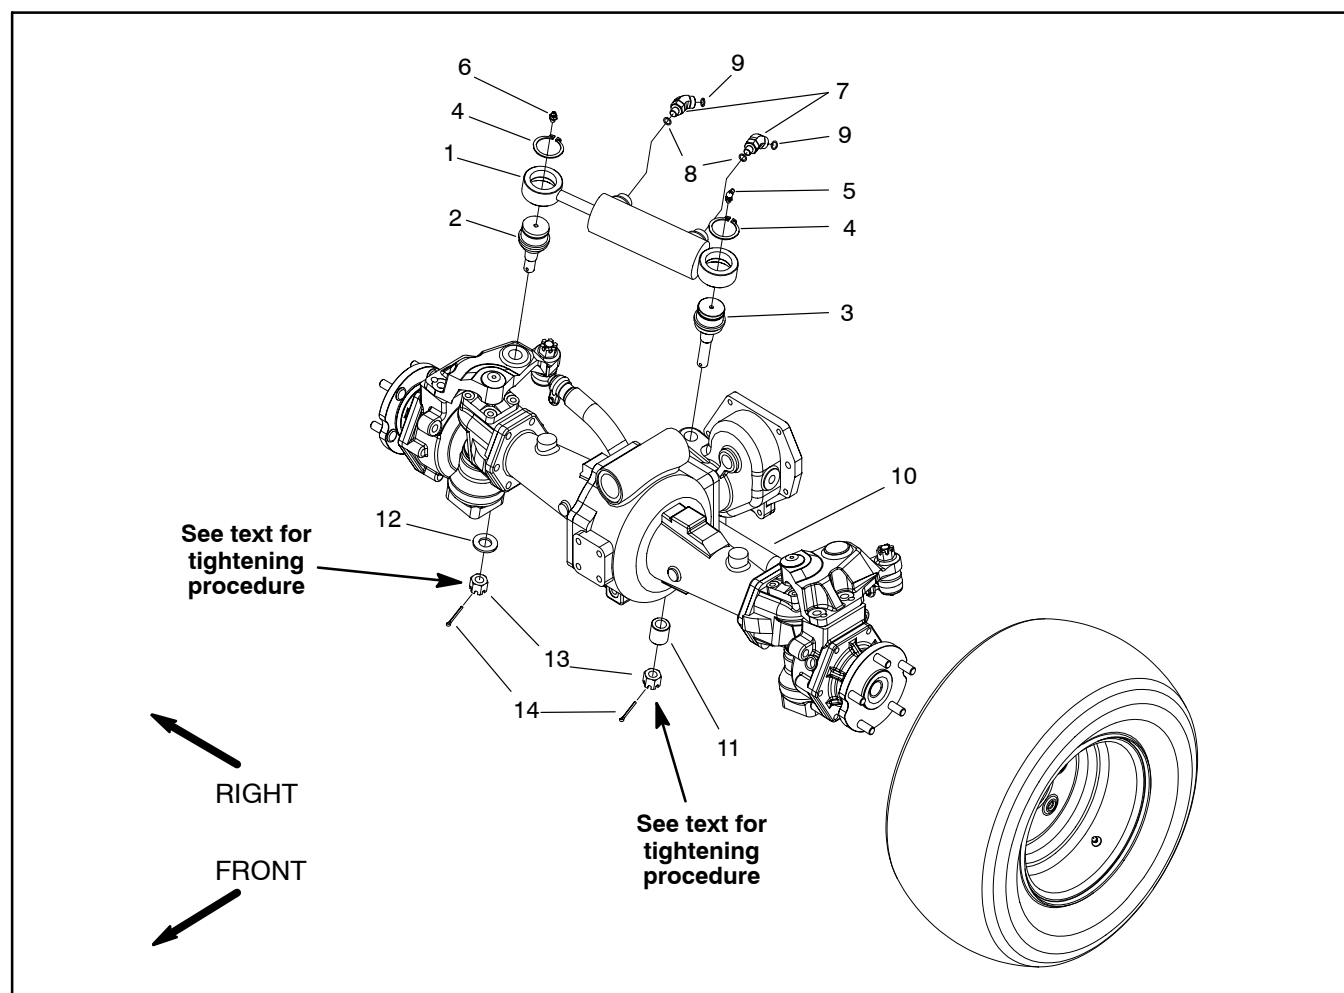

Figure 82
Removal (Fig. 82)
4. Remove cotter pins, slotted hex nuts, axle washer and ball joint spacer from the threaded ends of ball joints (Fig. 82). Remove steering cylinder with ball joints from machine.
Installation (Fig. 82)